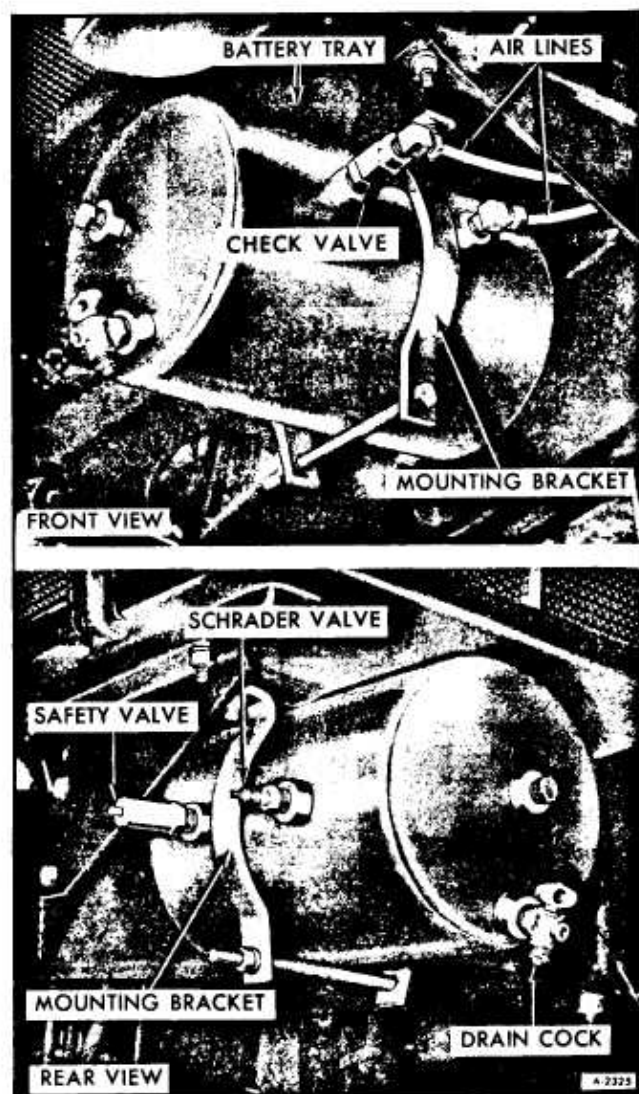

Figure 5—Air Reservoir
1. Slowly open drain cock on reservoir (figure 5) to expel air.